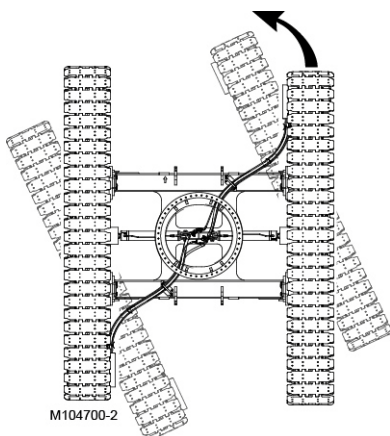

Figure 3-16. Travel Left (sharp turn)
- To make a SHARP LEFT TURN (Figure 3-16), move the right crawler control handle forward from the neutral position and leave the left crawler control handle in the neutral position. The crane will pivot about the left crawler.